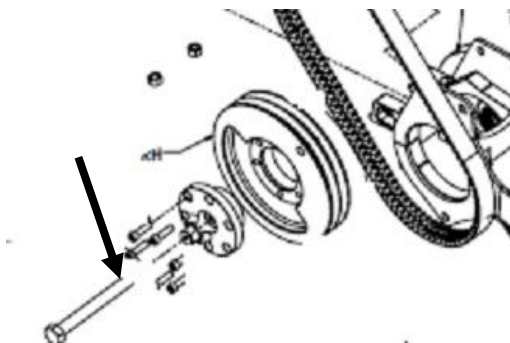

Figure 67
11. Install both flywheels. Make certain to line up the roll pins and cross-hatch on the flywheels and bearing housing. The bearing pin on the flywheels should be 180 degrees from each other. Retain the flywheels with the center bolt. Use Red Loctite and tighten the nut to 315 ft. lbs. Figure 67